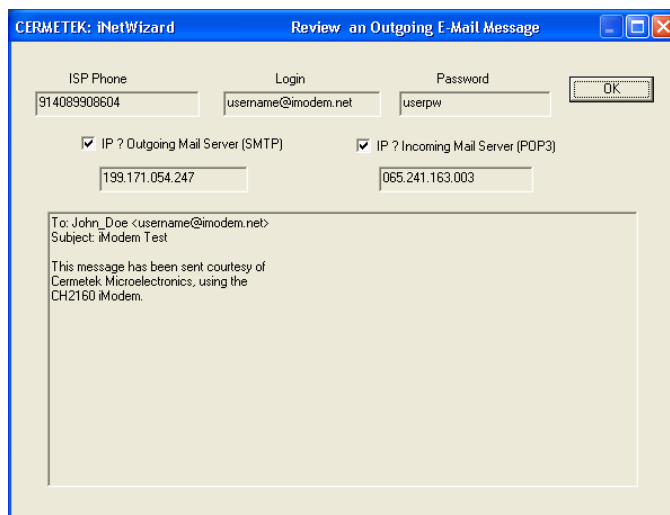

Figure 19. iNetWizard® Review Outgoing Email window per Example 2.
Step 2. Single click on the REVIEW EMAIL button to review the entire outgoing message (including headers). Note that when the IP boxes are checked, the decimal addresses are displayed. See Figure 19.